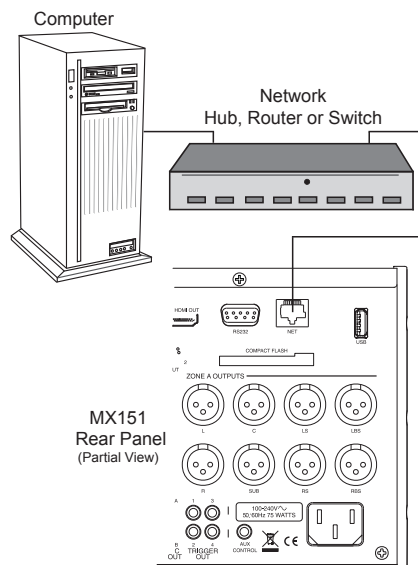

Figure 1
1. An Ethernet Connection between the MX151 NET RJ45 Connector (using a CAT5, CAT5E or CAT6 cable) to a Computer Network. Refer to figure 1.